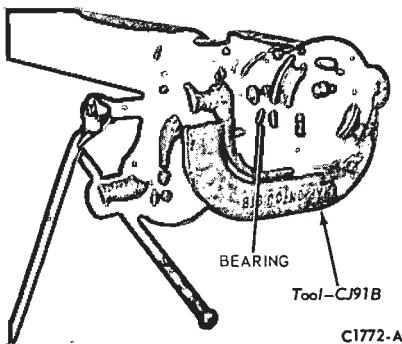

FIG. 10—Partially Pressing Bearing from Center Yoke
2. Position tool CJ91B as shown in Fig. 10. Thread the tool clockwise until the injected nylon moulding snaps and the bearing protrudes approximately $\frac{3}{8}$ inch out of the yoke.